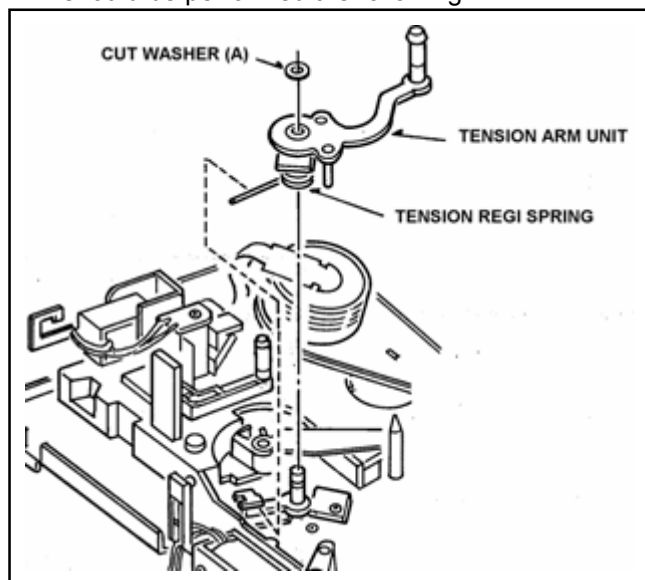

Figure 5-18-1
1. Remove the Cut Washer (A) and detach the Tension Regulator Spring, and then remove the Tension Arm Unit as shown in Figure 5-18-1.